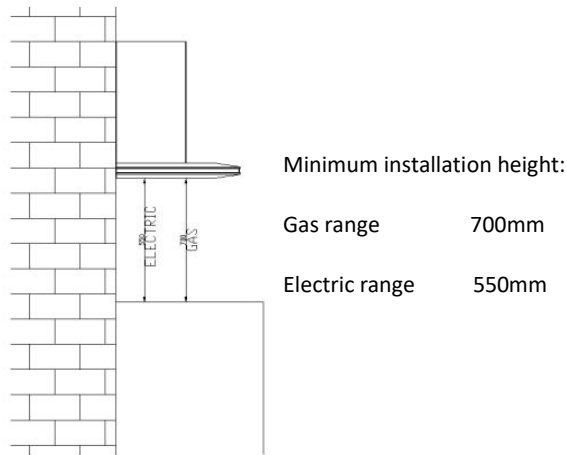

Fig 5
- The extractor hood can be installed over any gas and electric cooktop. Minimum installation height from the bench top to the bottom of the hood is 700mm (gas range) and 550mm (electric range).Fig 5